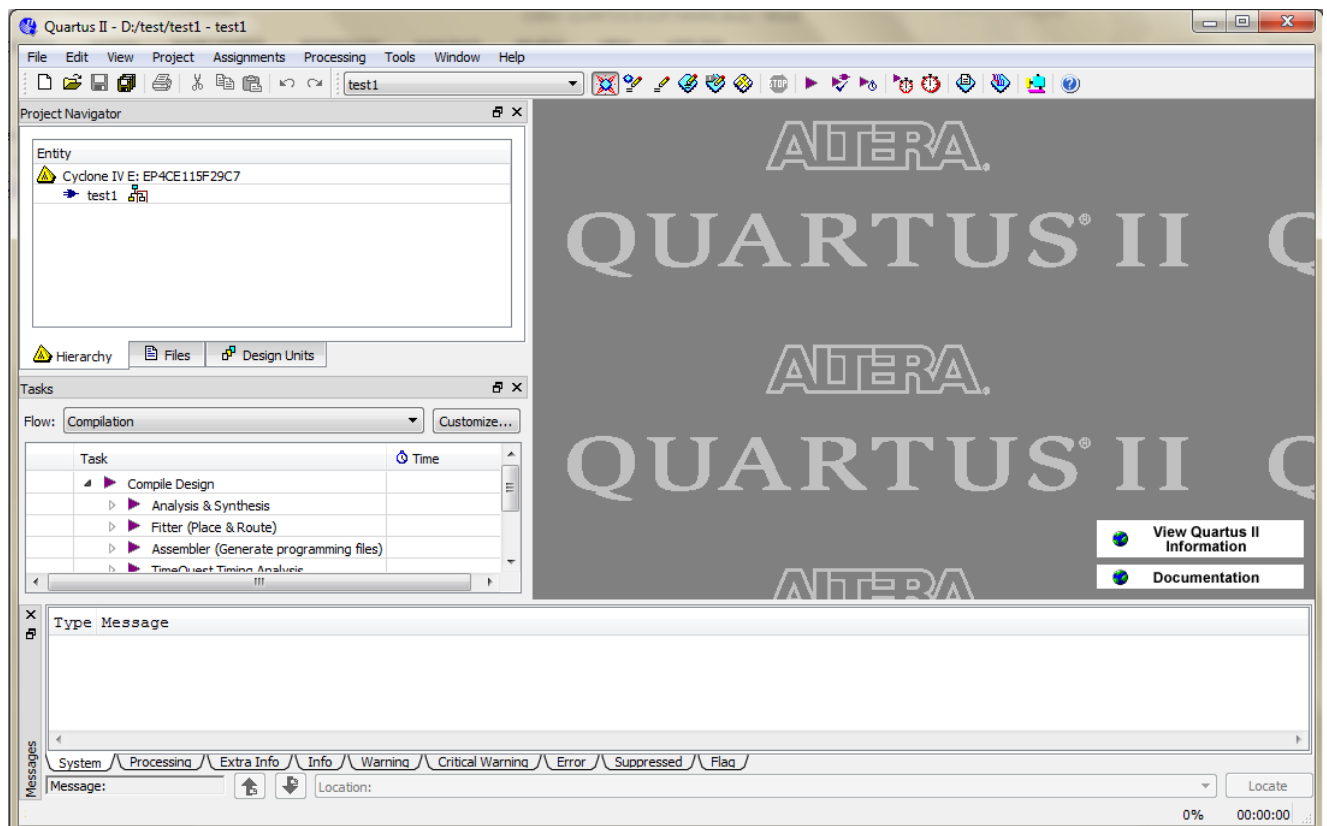

Figure 11. The Quartus II display for the created project.
- Press **Finish**, The window in the Figure 11 is showed.